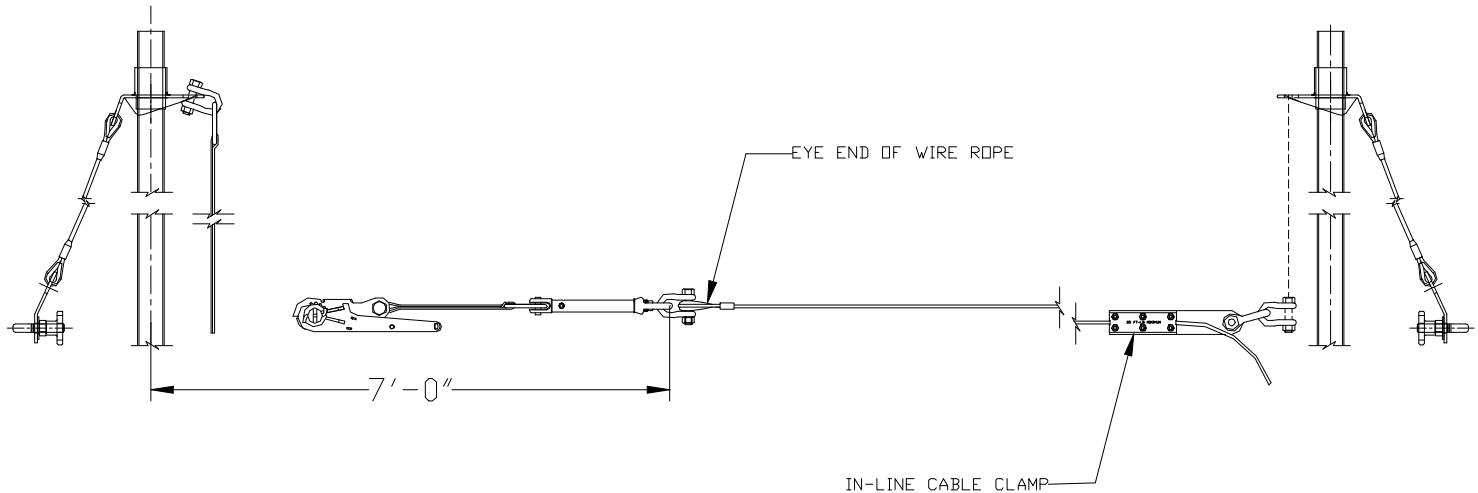

Figure 3
9. Position the eye end of the wire rope so that it is about 7-ft. (see Figure 3) away from the location of one of the end stanchions.